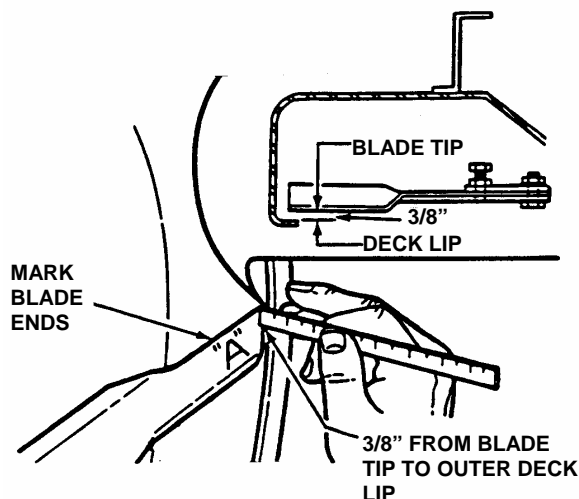

FIGURE 4.6
8. Measure the distance between deck lip and blade tip. NOTE: On 33" decks, the measurement between the blade tip and deck lip should be 3/8". See Figure 4.6.